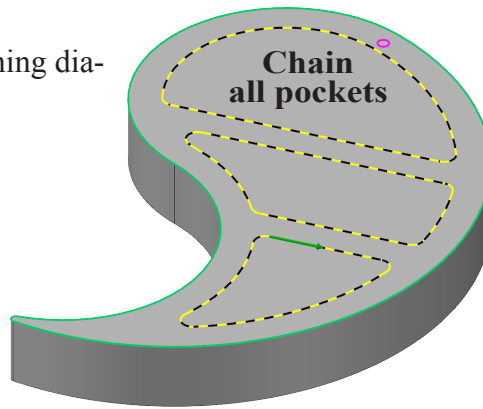

Fig. 41
Step 2. Click **any geometry of each pocket**, Fig. 41.